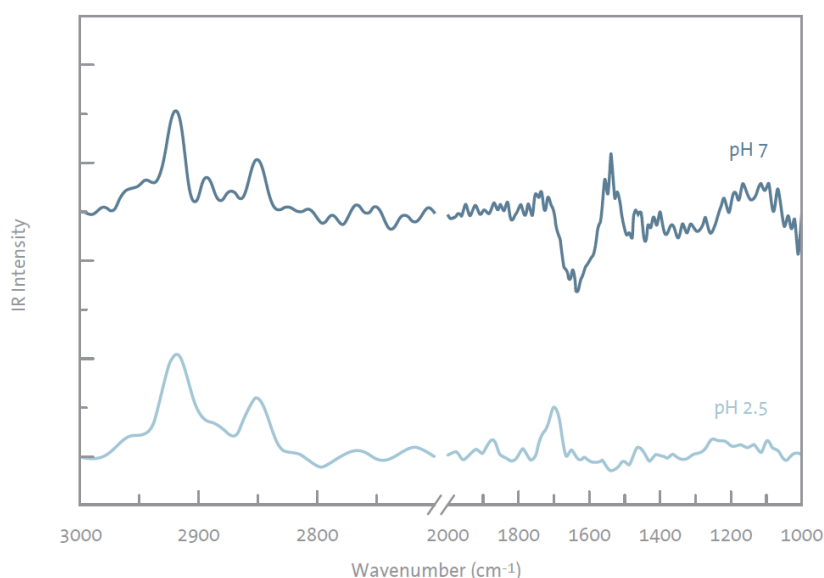

Figure 6. PM-IRRAS spectra of Stearic acid Langmuir films at pH 2.5 and pH 7.
Figure 6 presents an example PM-IRRAS spectra of Stearic acid (SA) deposited using a Langmuir-Blodgett trough with a subphase containing 0,1 mM of  $\text{CdCl}_2$ . Salts are generally used in the subphase to improve the stability of the monolayer. The spectra show the  $\text{CH}_3$  symmetric stretch (2960  $\text{cm}^{-1}$ ) and  $\text{CH}_2$  symmetric (2850  $\text{cm}^{-1}$ ) and asymmetric (2918  $\text{cm}^{-1}$ ) stretches. In the pH 2.5 spectrum, one can observe an upward oriented  $\text{C=O}$  band at 1710  $\text{cm}^{-1}$ . In the pH 7 spectrum, there is a downward oriented band at 1650  $\text{cm}^{-1}$ , which indicates strong water absorption [7]. Also, there is a clear peak at 1540  $\text{cm}^{-1}$  for the  $\text{COO}^-$  asymmetric stretch. This shows that at a lower pH, the stearic acid molecule remains protonated, i.e. the carboxyl group  $-\text{COOH}$  is in its native form. At a higher (neutral) pH, the  $-\text{COOH}$  group is able to dissociate and react with the salt in the subphase, resulting in a deprotonated  $\text{COO}^-$  -group and strong water absorption.